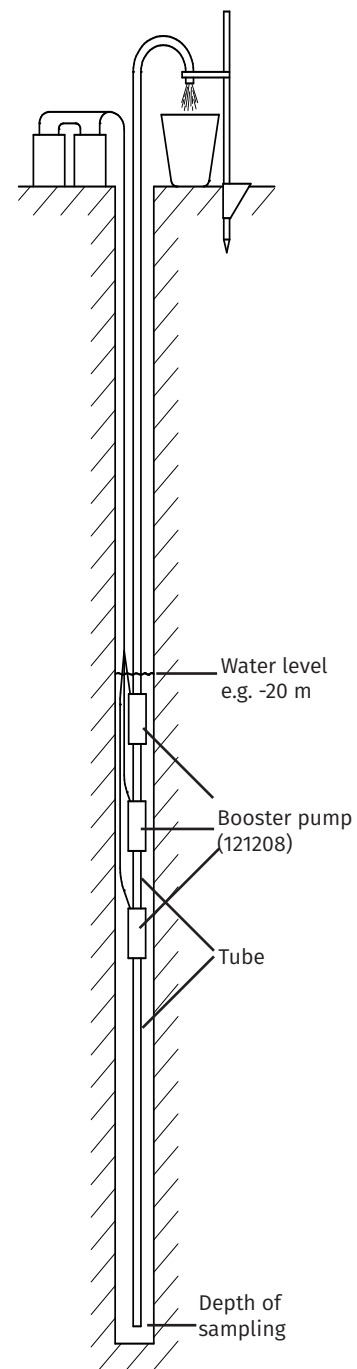

Figure 2
- Do not use the pump far below the surface of the water. The high water pressure could cause water to penetrate into the compartment and damage the pump. No data are available indicating the depth at which this occurs. If you would like to carry out sampling deep below the surface of the water, replace the lowermost Gigant pump with a Booster pump with a long tube attached at the base (see Fig. 2). In that case, you must be extra careful not to draw in sediment.